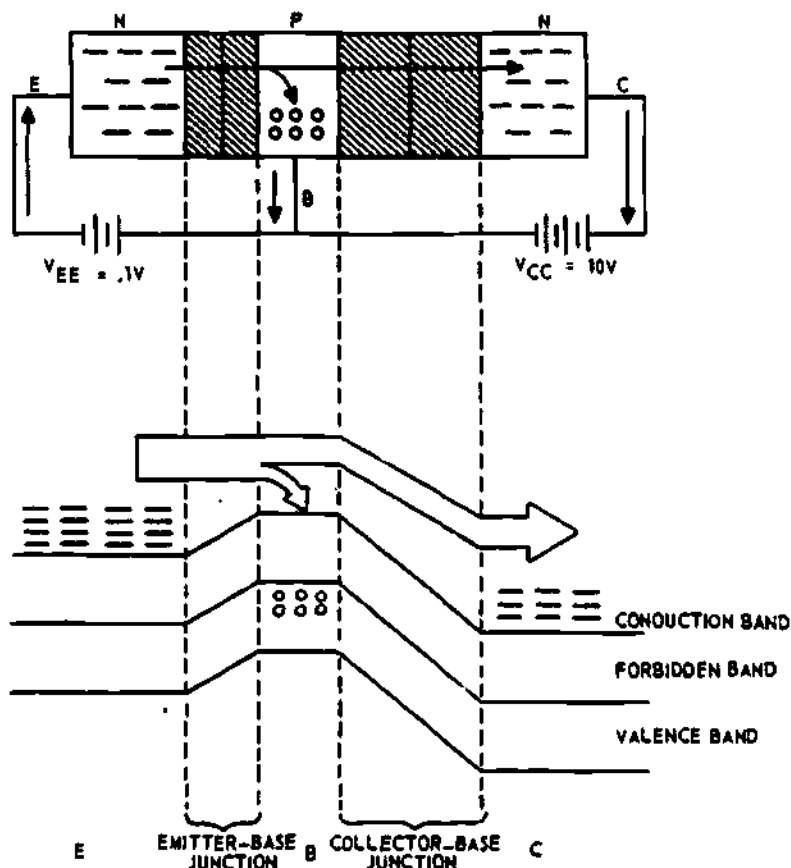

Figure 30-1
5. Figure 30-1 is a pictorial and energy level diagram of a properly biased NPN transistor. The 10V battery is connected so as to apply _____ to the collector base junction.
For questions 6 through 9 refer to figure 30-1.